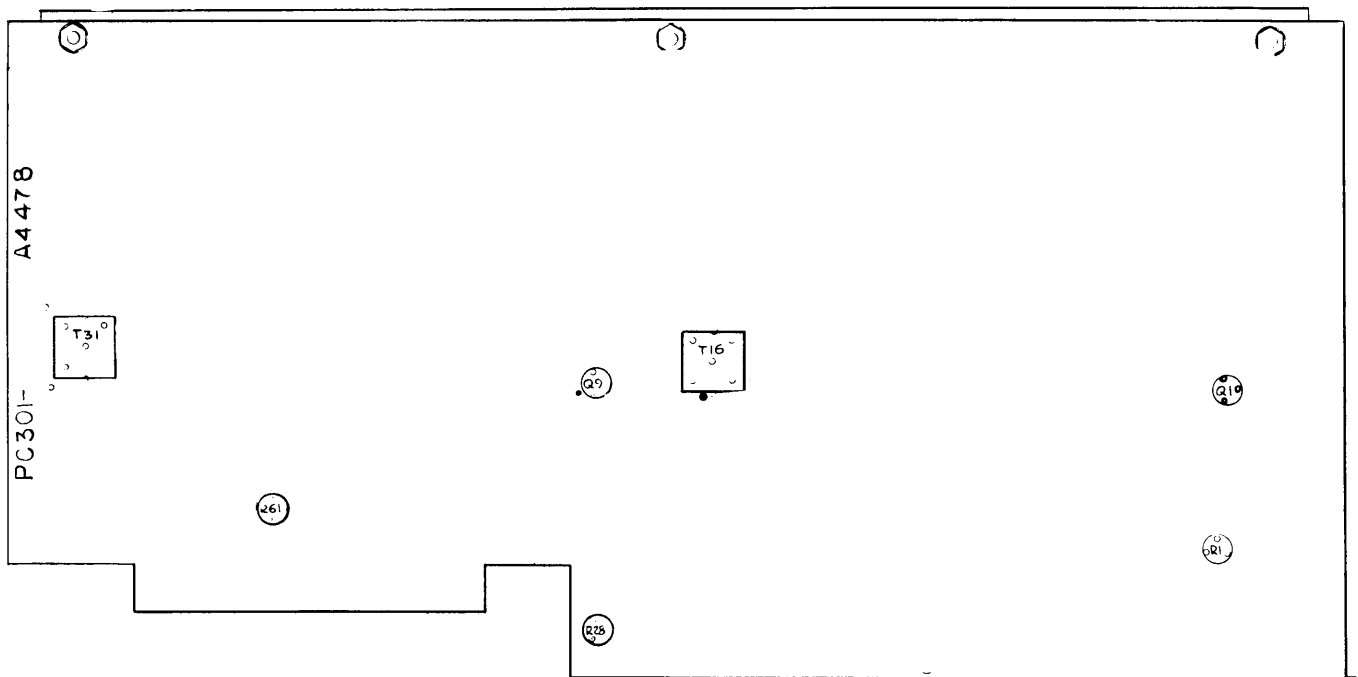
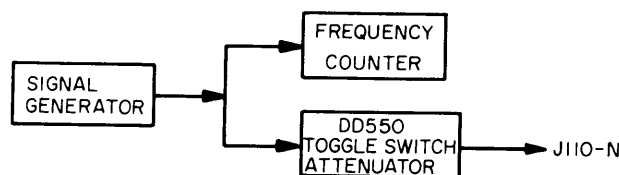
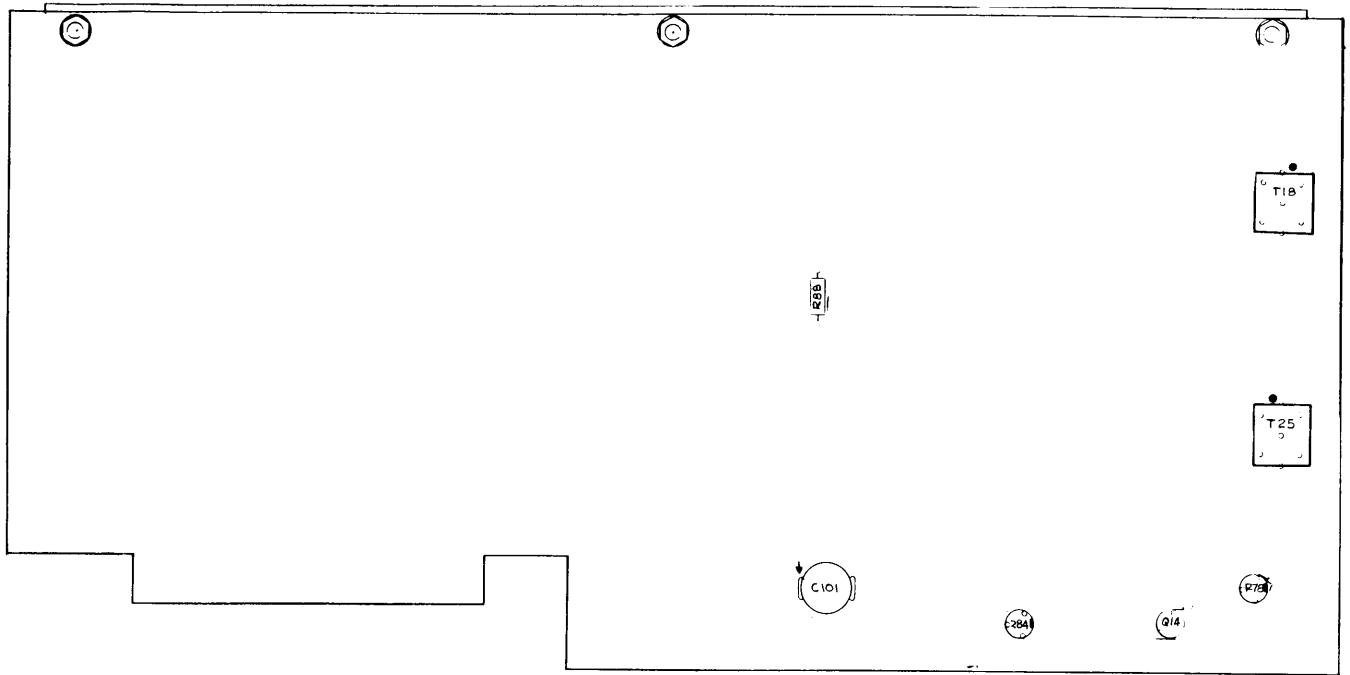
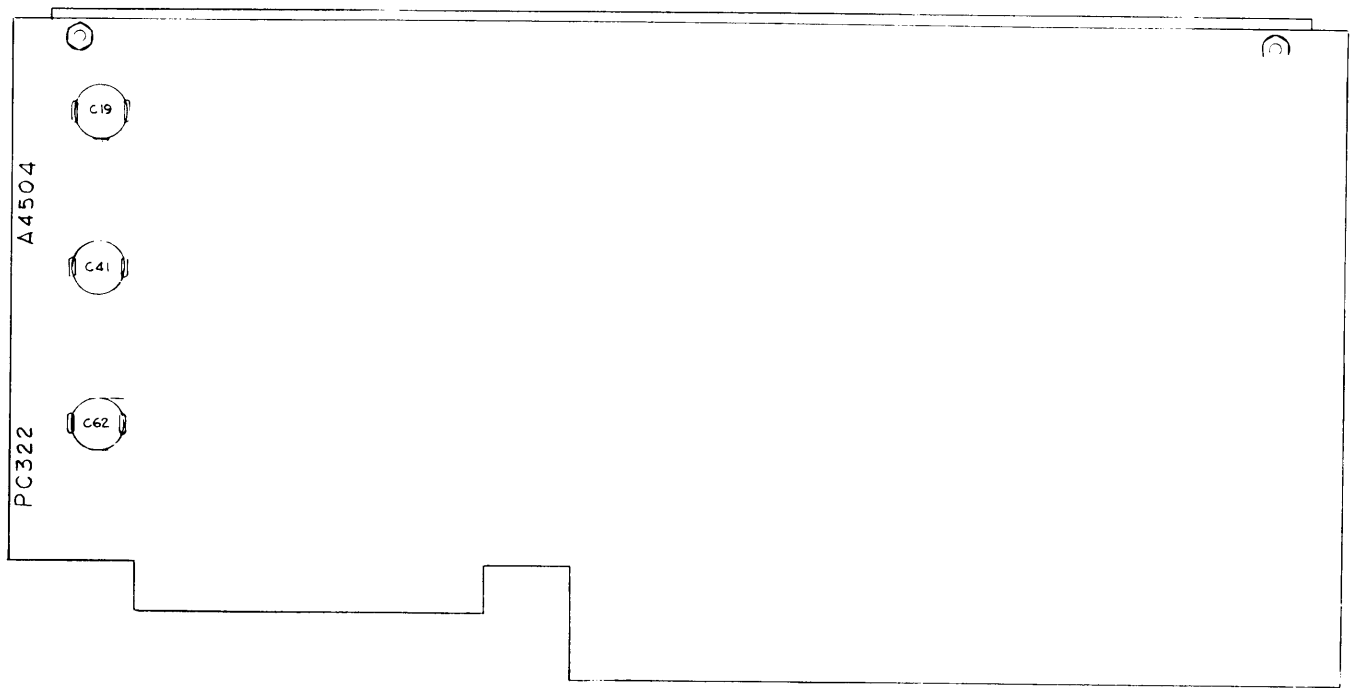

Figure 5-11. Step Generator Z110, Adjustments
Figure 5-12. Signal Generator, Test Setup
Figure 5-13. Step Generator Z113, Adjustments
Figure 5-14. Step Generator Z111, Adjustments
k. STEP GENERATOR Z110. (See figure 5-11.)
- (1) Remove Comb Filters Z102 and Z103.
- (2) Set the front panel frequency selectors to 03.0000 MHz.
- (3) Connect scope and counter to the collector of Q1, and adjust R1 for a 14 MHz signal at 2 volts P-P.
- (4) Connect an rf signal generator as shown in figure 5-12.
- (5) Adjust signal generator for an output of 1.05 MHz, at a level of 100 millivolts, rms. The 100 millivolts to the counter will allow continuous frequency monitoring. In all cases, set the generator frequency as close as possible to the specified frequency.
- (6) Connect scope to J110 pin R, and adjust R28 for 0.4 volts P-P. (1.05 MHz).
- (7) Connect scope and counter to J110 pin 5. Carefully vary the frequency of the signal generator from 800 kHz to 1.2 MHz. The scope level should be approximately 2 volts P-P minimum, and the output frequency should vary from 13.2 MHz to 12.8 MHz. Adjust T8 for maximum indication.
- (8) Set the signal generator to 1.55 MHz, 100 millivolts, as before. Change the frequency selectors on the MMX front panel to 07.0000 MHz.
m. STEP GENERATOR Z113. (See figure 5-13.)
- (1) Remove comb filters Z102 and Z103.
- (2) Set front panel selectors to 28.0000 MHz.
- (3) Connect scope at the collector of Q14 and adjust R78 for maximum 12 MHz indication.
- (4) Connect scope at the junction of T11 and CR1 and adjust T11 for maximum 12 MHz signal.
- (5) Connect scope to the junction of C104 and R88 and adjust C101 and R84 alternately, in small increments, until minimum 12 MHz signal is achieved.
- (6) Connect scope to the collector of Q14 and adjust R78 for a 12 MHz level of 2.0 volts P-P.
- (7) Connect a H. P. 606B signal generator to J110, pin N as shown in figure 5-12; use no attenuation unless directed.
- (8) Set the signal generator to 1.6 MHz at a level of 100 millivolts RMS.
- (9) Connect scope and counter to J113 pin N and adjust T18 for maximum 10.4 MHz signal.
- (10) Carefully vary the signal generator from 1.4 MHz to 1.6 MHz. The output should be about 1.0 volt P-P minimum, and the frequency should vary from 10.6 MHz to 10.4 MHz.
- (11) Set the signal generator to 1.1 MHz at an output level of 400 millivolts P-P, and set the MMX front panel selectors to 23.0000.
- (12) Connect scope and counter to J113 pin N and adjust T25 for maximum 10.9 MHz indication.
- (13) Carefully vary the signal generator from 0.8 MHz to 1.3 MHz. The output should be 1.0 volt P-P minimum, and the frequency should vary between 11.2 MHz and 10.7 MHz.
- (14) Replace comb filters Z102, Z103 and remove signal generator.
n. STEP GENERATOR Z111. (See figure 5-14. )
- (1) Set front panel selectors to 25.0000.
- (2) Connect the rf VTVM Millivac MV28B to J111 pin 1.
- (3) Adjust C19 for maximum meter deflection.
- (4) Vary the front panel selectors from 21.0000 to 31.0000 MHz in 1-MHz steps. The VTVM shall indicate 40 millivolts RMS minimum throughout the range. If not, slightly adjust C19 (with front panel selectors at 25.0000 MHz) until gain can be equalized across the band (as closely as possible).
- (5) Set front panel selectors to 15.0000 MHz.